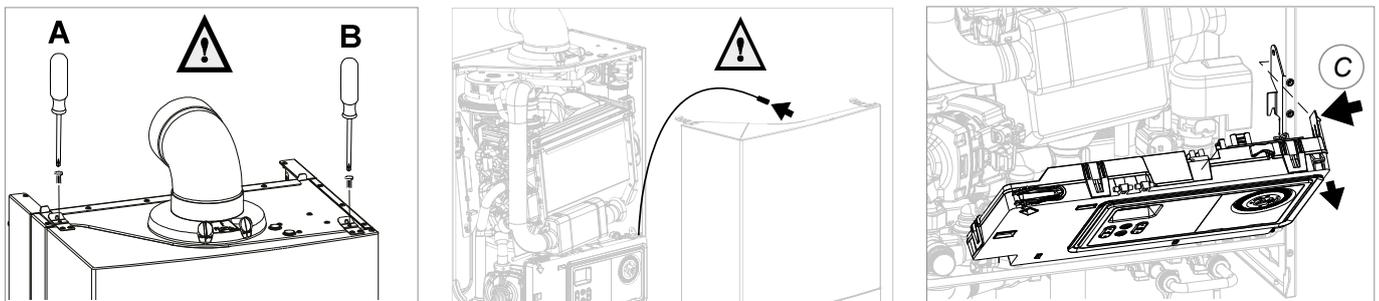

Figure 16.a
- Remove the screws from the 2 fasteners A and B (see fig. 16.a);
### Siphon (see fig. 16.b)